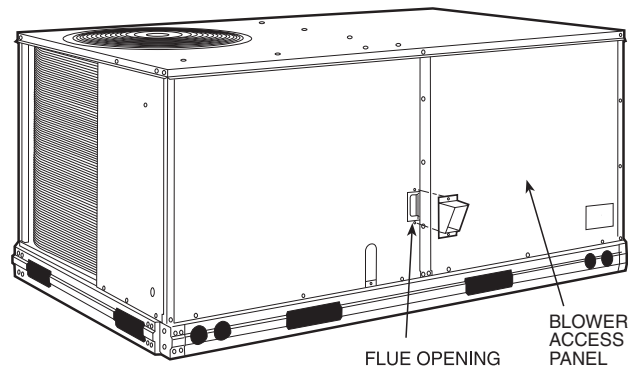
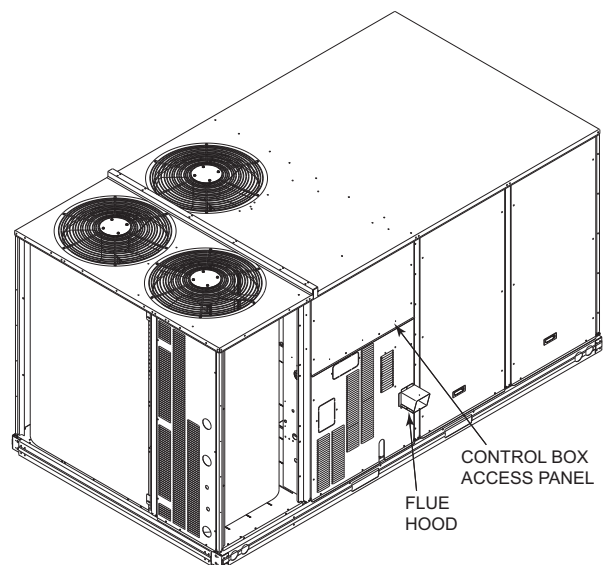

Fig. 23 — Flue Hood Details (Sizes 090-150)
Fig. 24 — Flue Hood Details (Size 180)
Step 9 — Install Flue Hood — Flue hood is shipped screwed to the basepan beside the burner compartment access panel. Remove from shipping location and using screws provided, install flue hood and screen in location shown in Fig. 23 for size 090-150 and Fig. 24 for size 180.